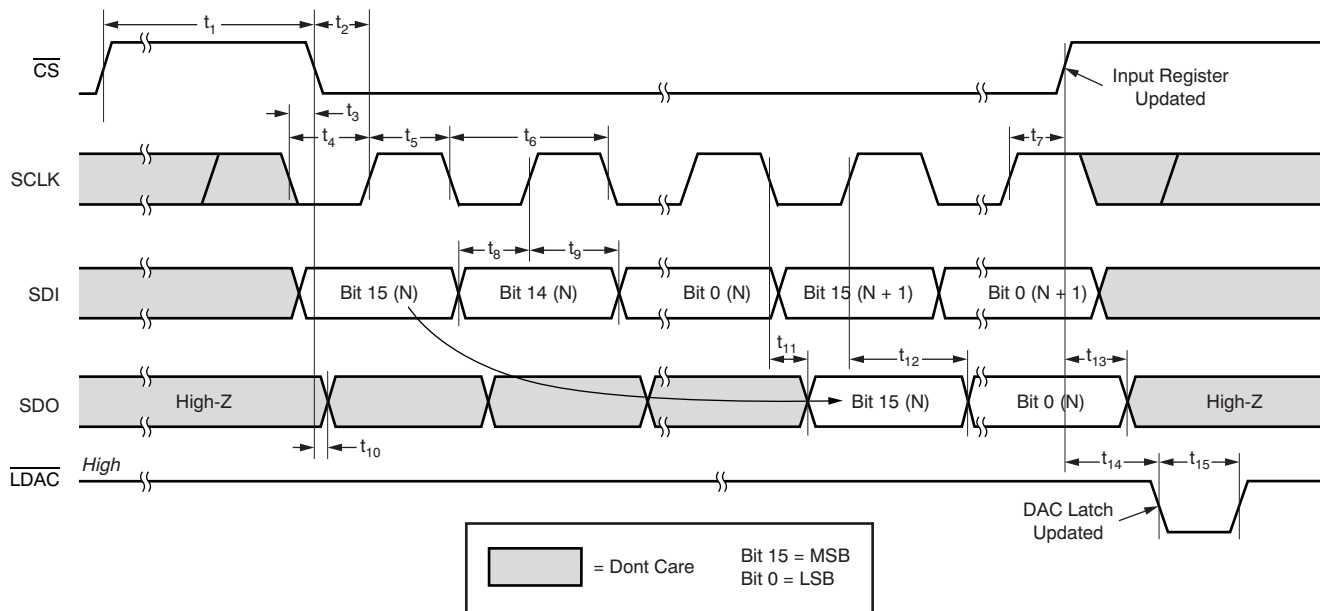

Figure 3. Timing Diagram of Daisy Chain Mode, Two Cascaded Devices
- (1) All input signals are specified with t_R = t_F = 2ns (10% to 90% of IOV_{DD}) and timed from a voltage level of IOV_{DD}/2.
- (2) Specified by design. Not production tested.
- (3) Sample tested during the initial release and after any redesign or process changes that may affect these parameters.
6.7 Timing Characteristics for Figure 2 and Figure 3 ^{(1) (2) (3)}